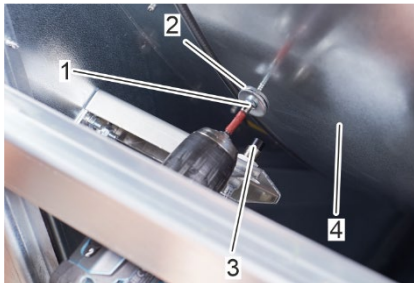

Fig. 76: Fasten clock sensor contactor
8. Screw a screw (Fig. 76/1) with washers (Fig. 76/2) into the rotor (Fig. 76/4) in line with the clock sensor (Fig. 76/3). The washers act as contactor (Fig. 77/2) for the clock sensor.